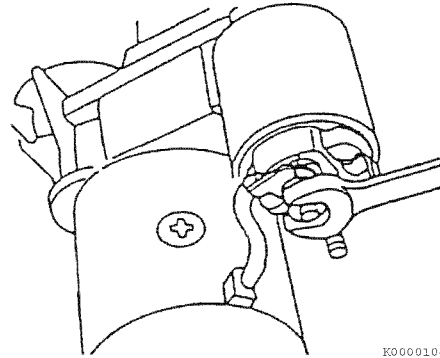

Figure 11-32
12. Reinstall the two M4 through bolts (**Figure 11-32**). Securely tighten the through bolts. Reconnect the wire to the magnetic switch assembly. Tighten the M8 nut. Reinstall the cover over the connection.